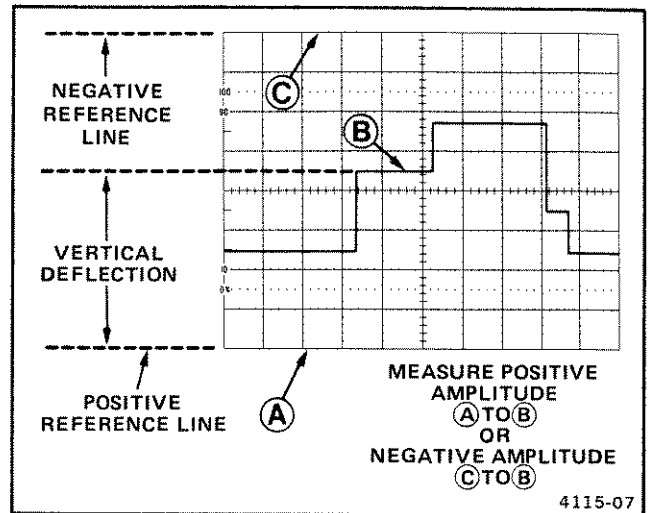

Figure 12. Instantaneous voltage measurement.
11. Measure the divisions of vertical deflection between the reference line and the desired point on the waveform at which the dc level is to be determined (see Figure 12).
EXAMPLE: The measured vertical deflection from the reference line is 4.6 divisions (see Figure 12), the waveform is above the reference line, the VOLTS/DIV switch is set to 2, a 10X attenuator probe is being used, and the A TRIGGER SLOPE switch is set to \nearrow (plus).